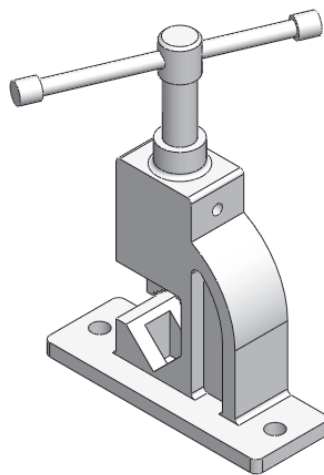
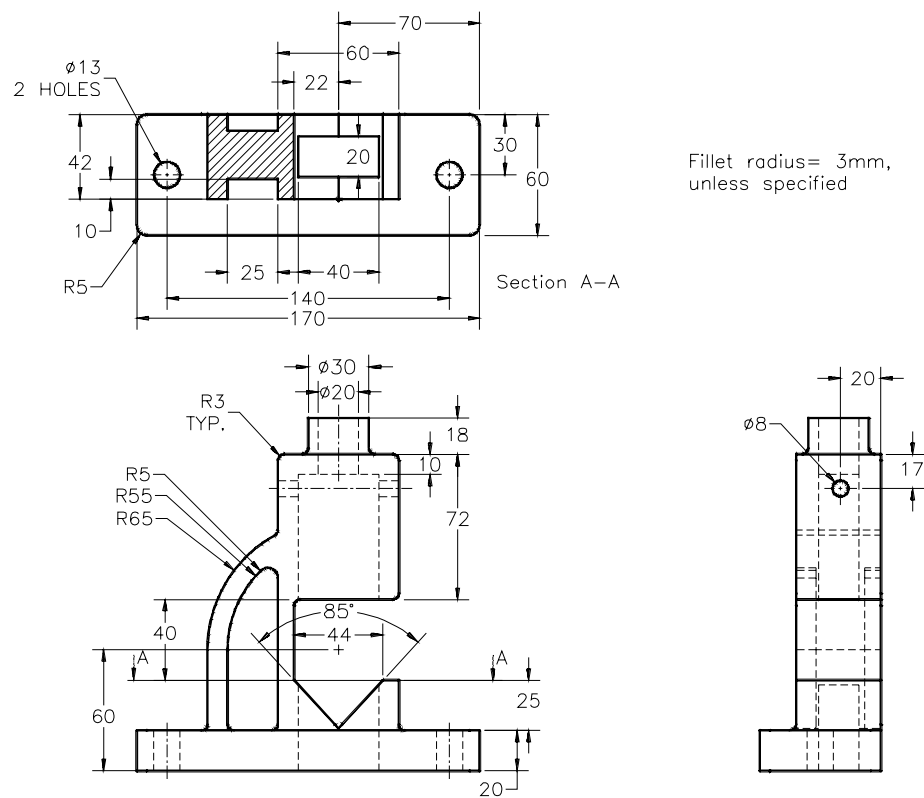

Figure 12-76 Pipe Vice assembly
Figure 12-77 Views and dimensions of the base
In this tutorial, you will create all components of the Pipe Vice and then assemble them. The Pipe Vice assembly is shown in Figure 12-76. The dimensions of various components of this assembly are given in Figures 12-77 and 12-78. **(Expected time: 2 hrs 45 min)**
1. Create all components of the Pipe Vice assembly as separate part documents. Specify the names of the files, as shown in Figures 12-77 and 12-78. The documents should be saved in the folder `\My Documents\SolidWorks\c12\Pipe Vice`.